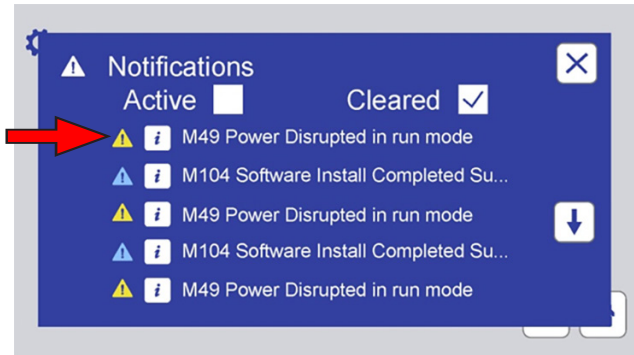

Figure 11.4e: Color coded icons show notification type.
- Color-coded attention icons indicate the type of notification (Figure 11.4e).